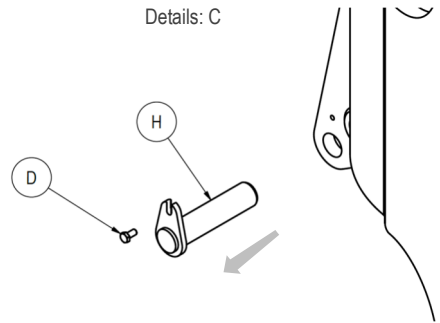

Figure 4
- Using the appropriate spanner, unscrew screw "D" and remove pin "B" as indicated in detail B and E Figure 4. In detail, the pin fixing the tilting structure to the fixed structure is indicated;